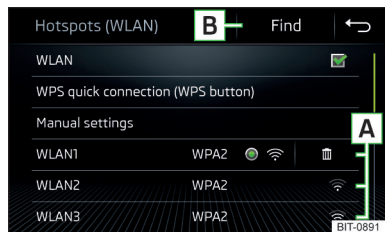

Fig. 200
In area **A** » Fig. 200, a list of available or previously connected hotspots is displayed.
**Icons and function surfaces in the list of available hotspots** **A** » Fig. 200